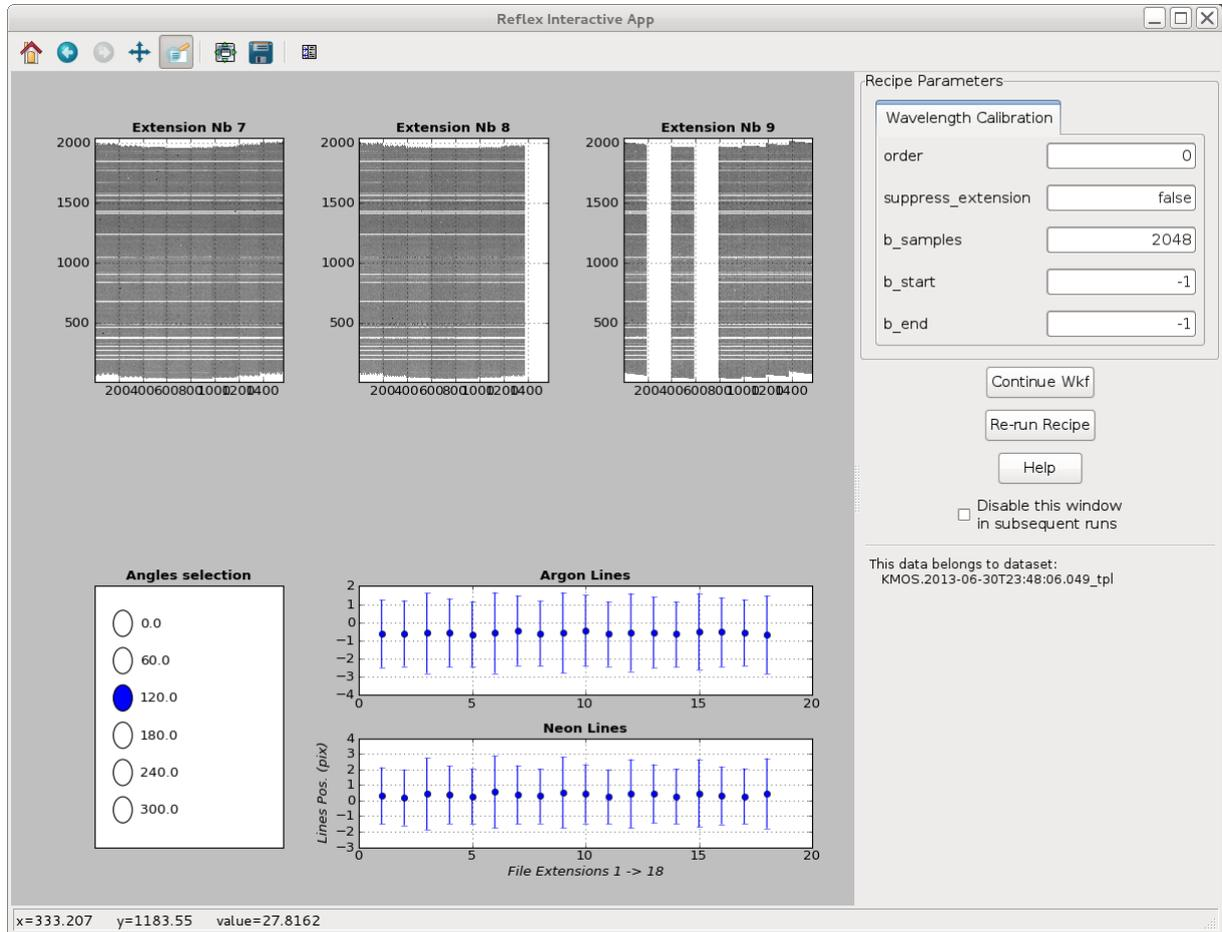

Figure 10.1: *The interactive window for the Wavelength Calibration actor as displayed for the KMOS tutorial data set.*
3. `Wavelength Calibration`: Figure 10.1 shows the interactive window that will pop-up at the end of the execution of the `kmo_wave_cal` pipeline routine. The image panels at the top of the window show the reconstructed arc frames for each of the three detectors at one of the six rotator position angles. To view the reconstructed arc frames at another rotator angle (either 0, 60, 120, 180, 240, or 300 degrees), simply click on the ovals in the *Angle selection* box. For each of the 18 reconstructed arc frames, the relative average offset of the reconstructed arc lines are plotted in units of pixels for each of the Argon and Neon arc lines (bottom two plots). One-half of the length of the error bars associated with each data point gives the average FWHM (in pixels) for each arc line.